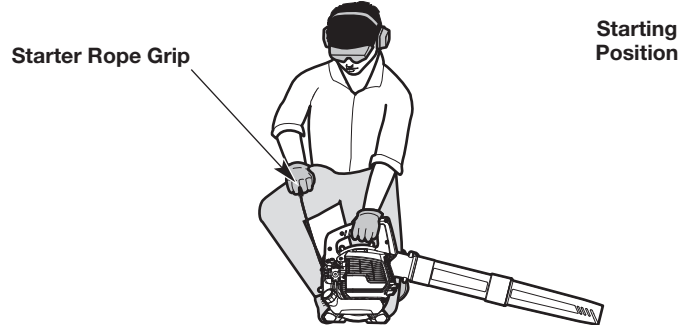

Fig. 5
**WARNING:** Avoid accidentally starting the unit. To avoid serious injury, the operator and the unit must be in a stable position when pulling the starter rope (Fig. 5).
3. Crouch in the starting position (Fig. 5).
5. Pull the starter rope with a controlled and steady motion **5 times** (Fig. 5).